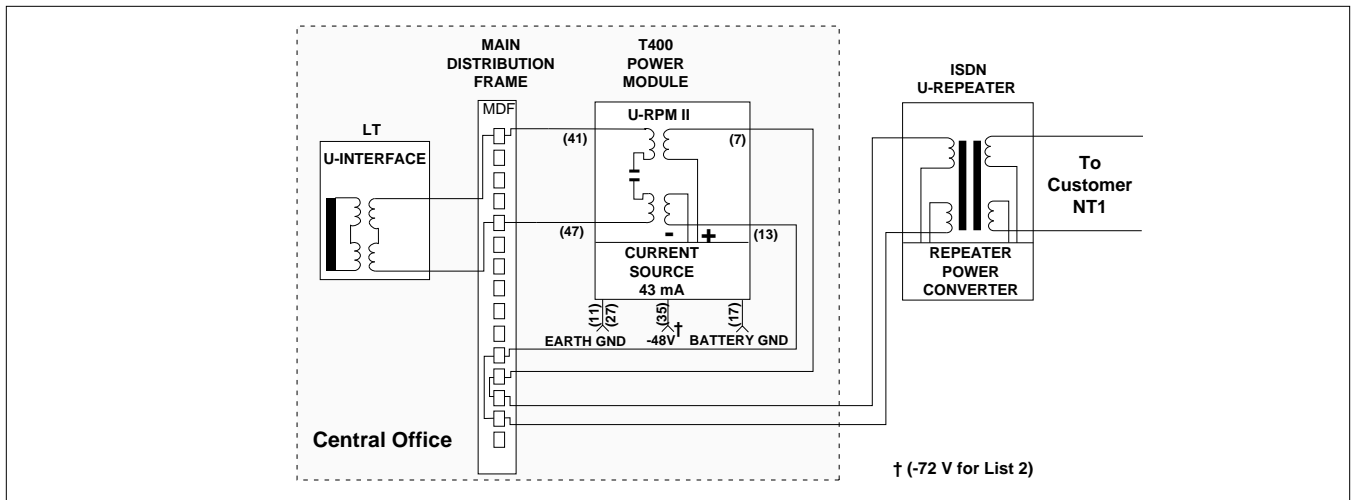

Figure 2. T400 U-RPM II Application
1.2 Issue 3 of this practice reflected text correction and changes to Figure 2. Issue 4 removed references to mid-point. Issue 5 added the List 2 unit. Issue 6 updates the List 1 CLEI code.
1.4 The Type 400 U-Repeater II Powering Module (T400 U-RPM II) is housed in a T400-type shelf between the U-Repeater and the Digital Subscriber Loop U-LT as shown in **Figure 2**. The T400 U-RPM II provides for the following functions for the ADTRAN ISDN loop repeater.